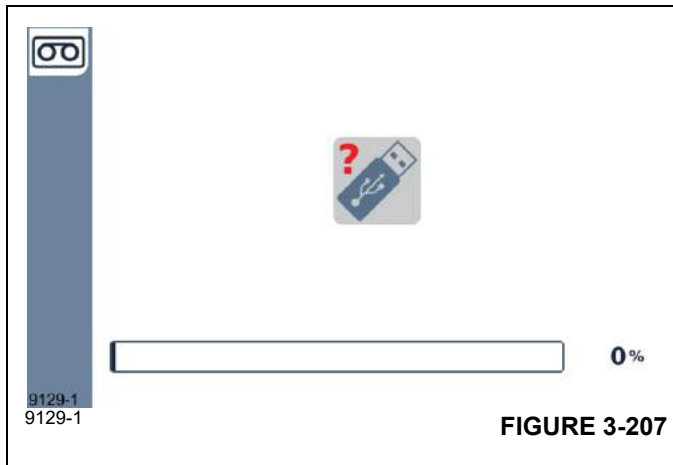

FIGURE 3-207
2. Insert USB drive into the USB port of RDM (Figure 3-207).